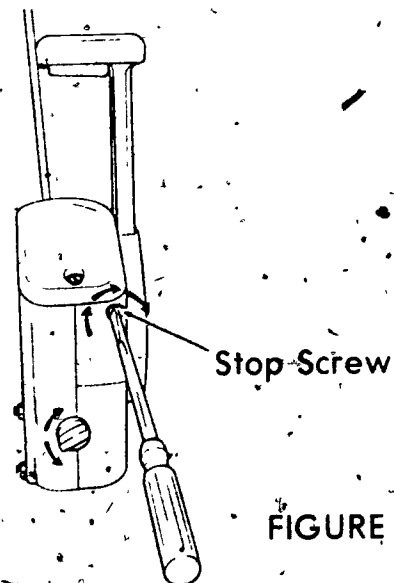

FIGURE 3
3. Holding key switch in the start position, adjust stop screw until the engine starts cranking with the warm-up lever in the full-start position (Figure 3)